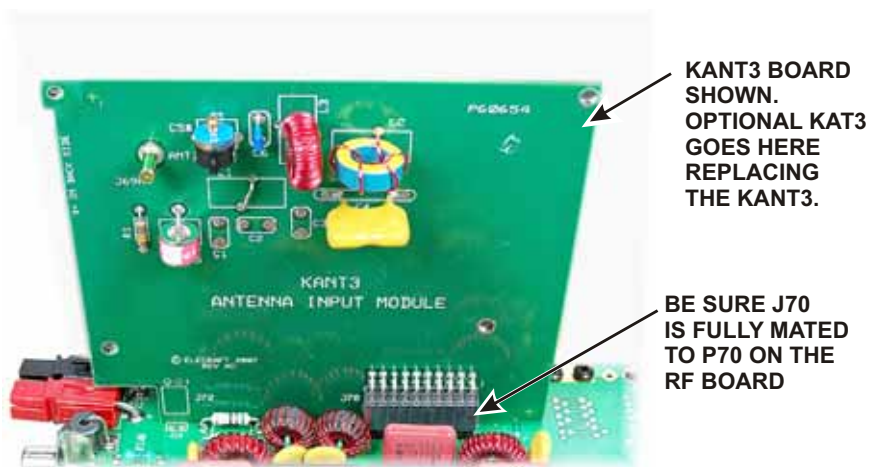

Figure 22. Installing the KANT3 or KAT3 Board.
□ Insert J70 on the KANT3 or the KAT3 board into P70 near the red and black APP power connectors at the right rear corner of the RF board. The KANT3 board is shown in Figure 22. The KAT3 board fits exactly the same way **with the toroidal inductors toward the center of the RF board.**